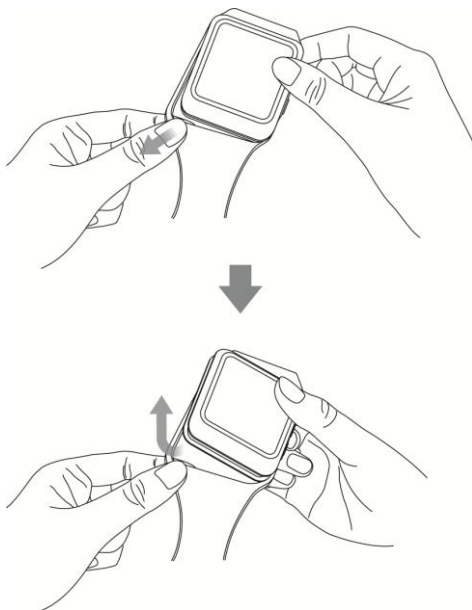

Figure 2. Detach the Watchband
2. Separate the watch case with the watchband as illustrated in **Figure 2**.